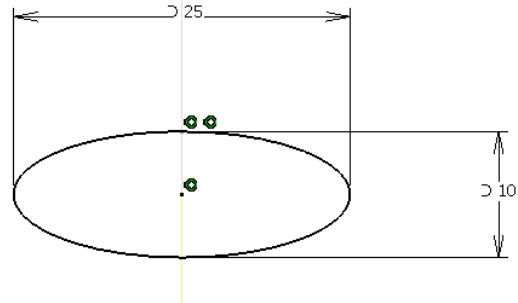

Figure 9-54 The profile for swept surface
6. Draw an ellipse, as shown in Figure 9-54.